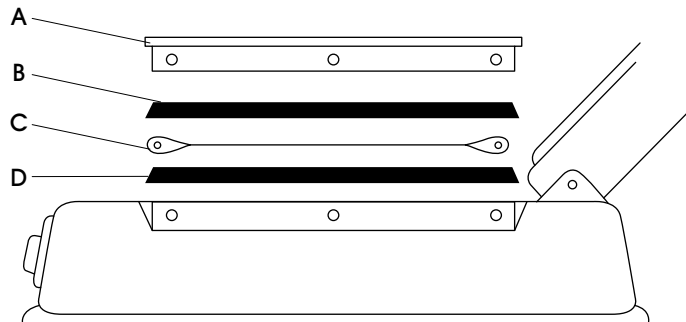

Figure 1
1. Remove screws along with the cover plates (A) and top teflon cover (B). Remove element (C) from terminal posts. (See Figure 1)
2. If bottom adhesive teflon tape (D) is worn, burned or ripped, it needs to be changed. Teflon tape keeps the element insulated from the sealer housing to ensure proper sealer operation. If this tape is not worn, go to step 5. (See Figure 1)